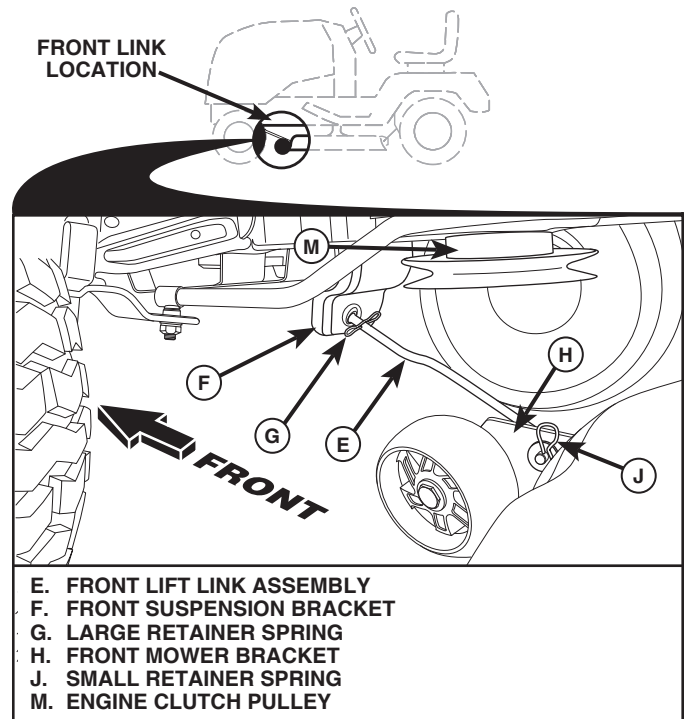

Fig. 12
## 8 ATTACH FRONT LINK (E) (See Fig. 12)
- From front of tractor, insert rod end of front link (E) through front hole in tractor front suspension bracket (F).
- Move to left side of mower and insert large retainer spring (G) through hole in front link (E) behind front suspension bracket (F).
- Insert other end of link (E) into hole in front mower bracket (H) and secure with washer and small retainer spring (J).